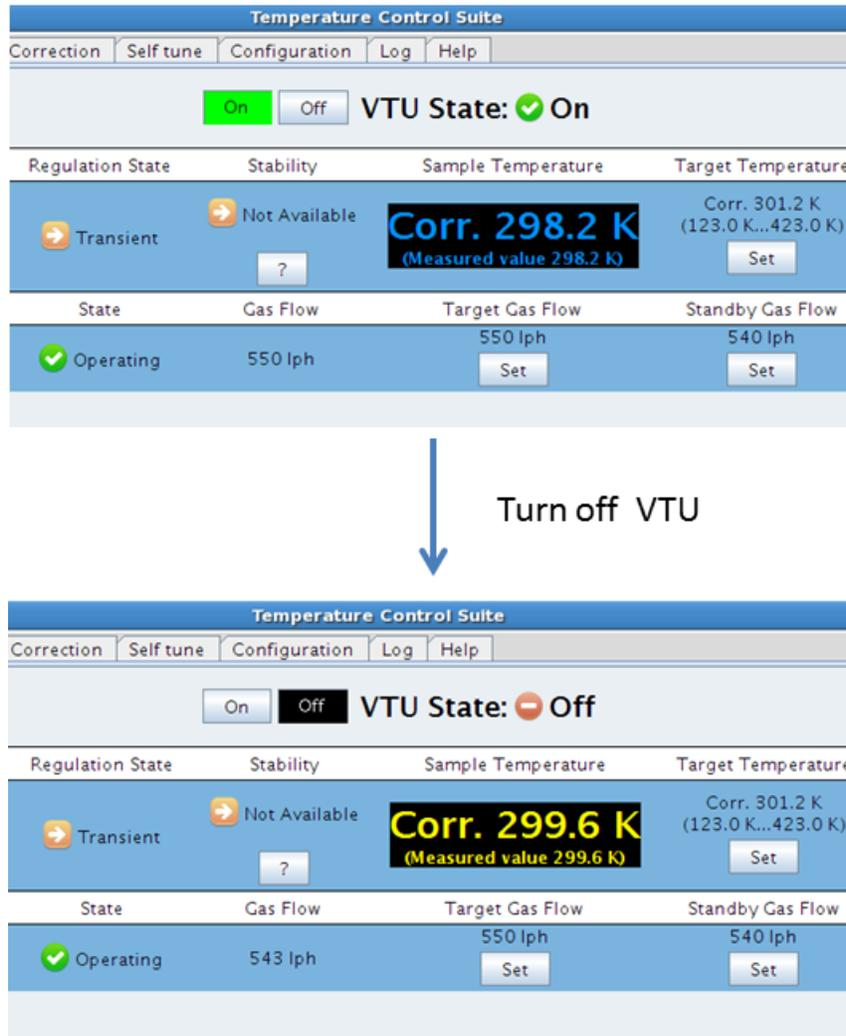

Figure 10: Turn Off the Variable Temperature Unit
1. In the command line of TopSpin software interface, type “*edte*” to start the Temperature Control Suite. Click on **Off** button to turn off the Variable Temperature Unit (VTU) as shown in Figure 10. In this way, the probe heater is turned off.